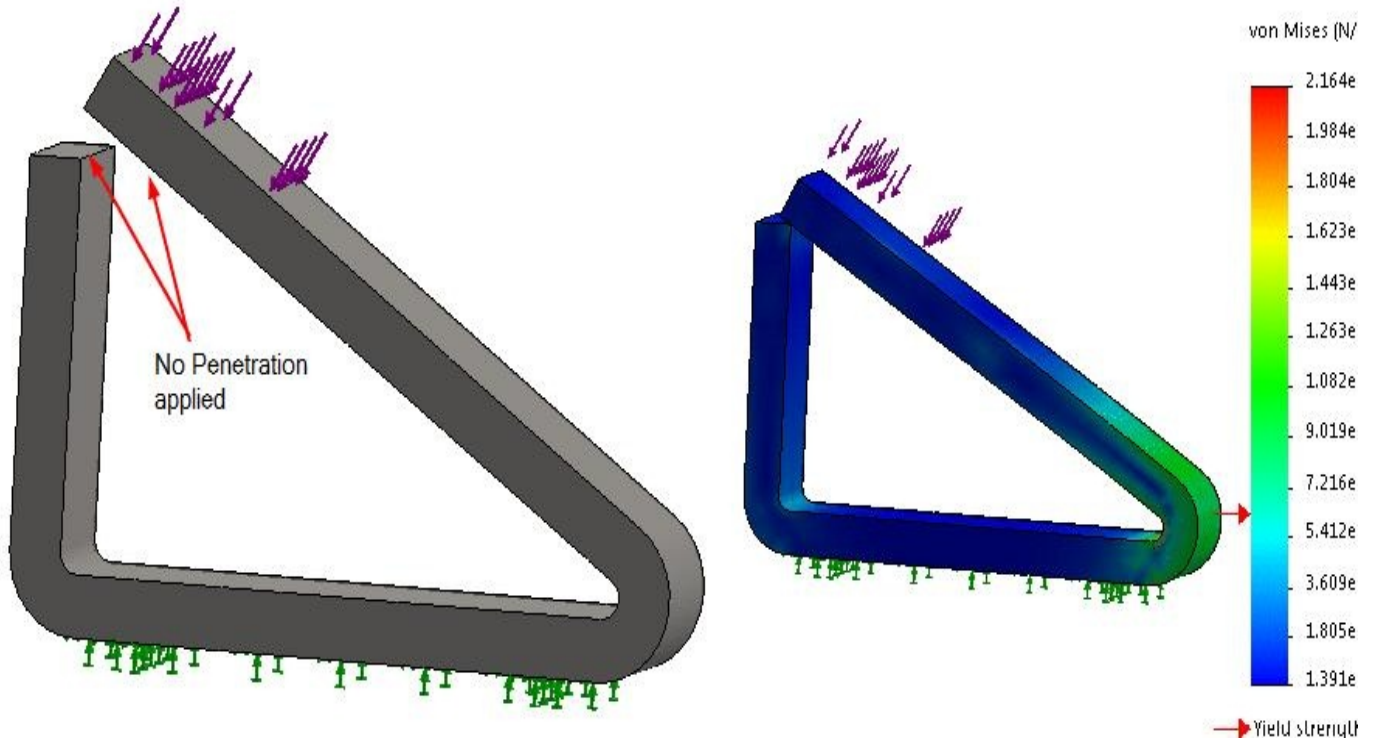

Figure-62. Result of load with Self Contact checkbox
- You can select the **Self-Contact** check box, if you want your object to not intersect with itself under the application of force; refer to Figure-62. This check box is new addition in SolidWorks 2015.